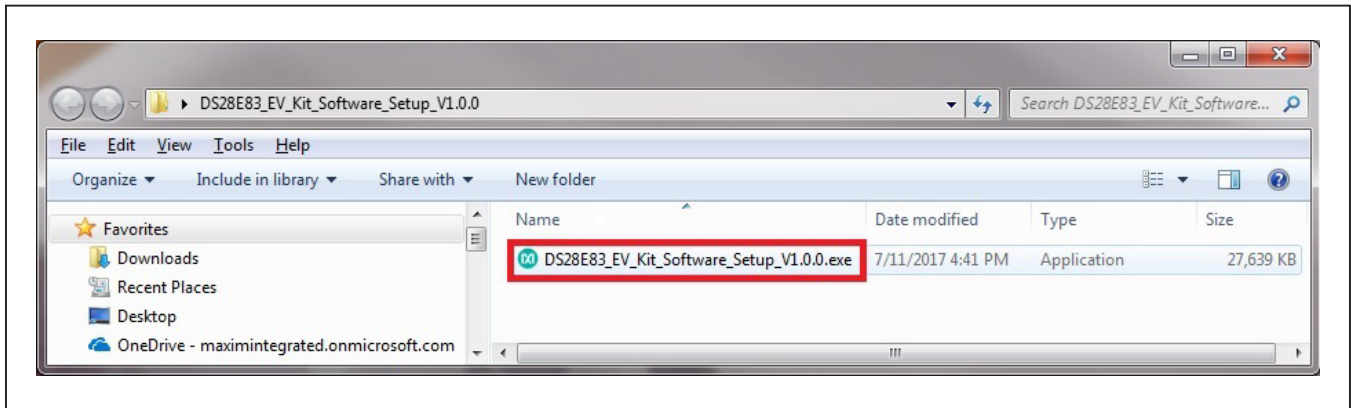

Figure 1. File Viewer
2) In a file viewer (Figure 1), double click on **DS28E83\_EV\_Kit\_Software\_Setup\_V1.0.0.exe** to begin the installation.